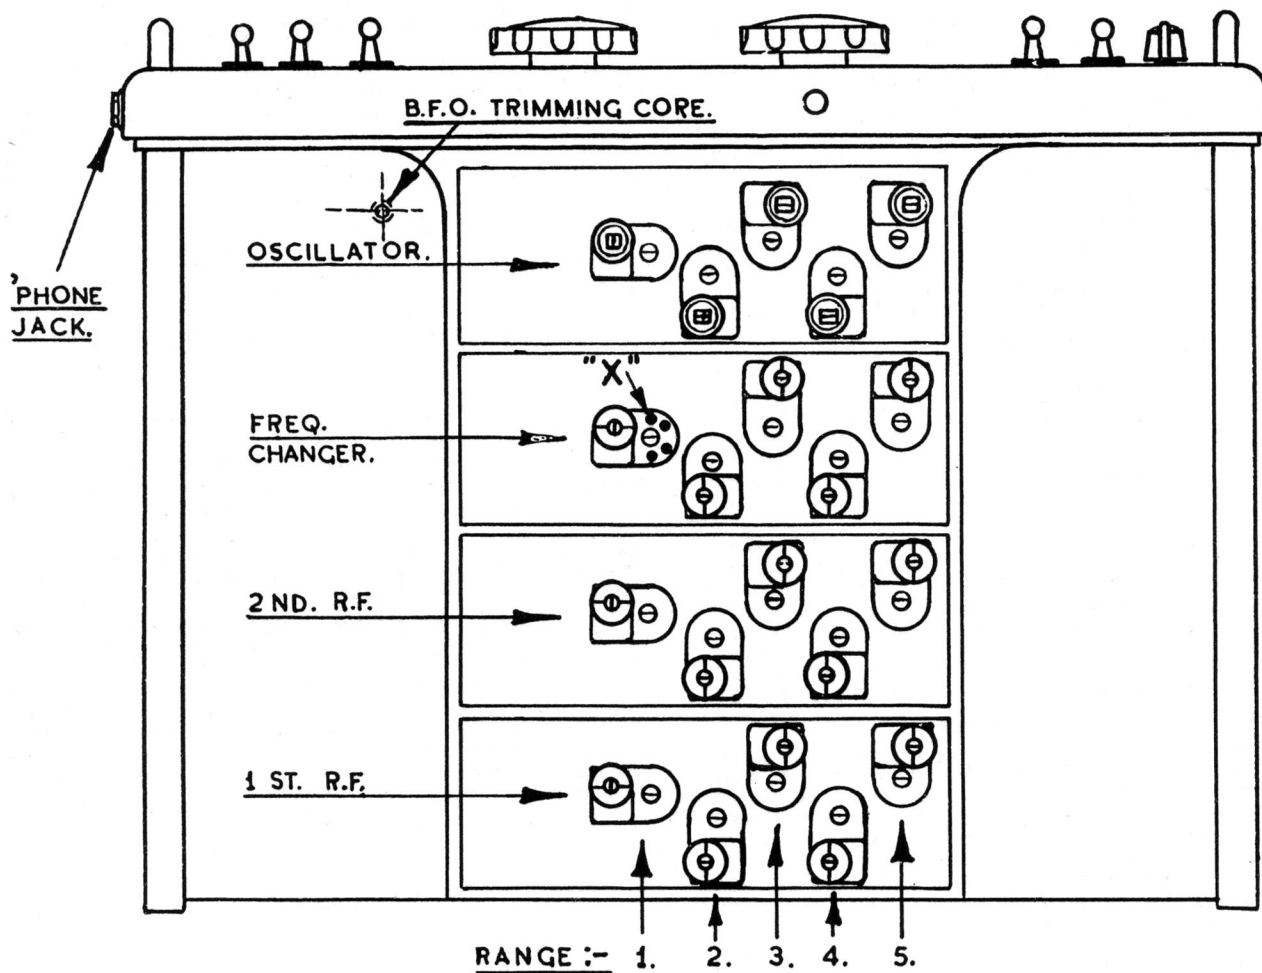

FIG. 4.
To measure the overall sensitivity of the IF amplifier at the mixer valve signal grid (V3) it will be necessary to unsolder a lead in the frequency changer compartment of the coil box. This lead is identified in Fig. 4 by an arrow and cross. The sign. gen. leads are connected between this lead and chassis. The sensitivity at this point should be in the region of 20 microvolts.
With the BFO switch off, the modulated (IF) signal applied to the receiver should be tuned in accurately with the aid of the "S" Meter, selectivity remaining at maximum. The modulation is switched off, the BFO switched on, and with the pitch control condenser at half mesh, indicated by the white spot being central at the top, the core in the BFO unit (see Fig. 4) is adjusted (if found necessary) to give zero beat against the applied signal.
The locations of the various trimmers and cores are shown in Fig. 4. Connect the crystal oscillator in shunt with the dummy aerial, switch on the BFO with the white spot at "12 o'clock," and using the RF gain only as volume control, check on Range 1. Should the 28 Mc/s. and 14Mc/s. harmonics be appreciably off their marks when tuned to zero beat, proceed to correct the 14Mc/s. harmonic by means of the Range 1 oscillator coil CORE. The 28 Mc/s. harmonic is corrected by means of the TRIMMER. With these two points accurately fixed, the rest of the calibrations will automatically conform to the desired 0.5% accuracy. The same procedure is used on all other ranges, the two setting points on each range being as follows:—